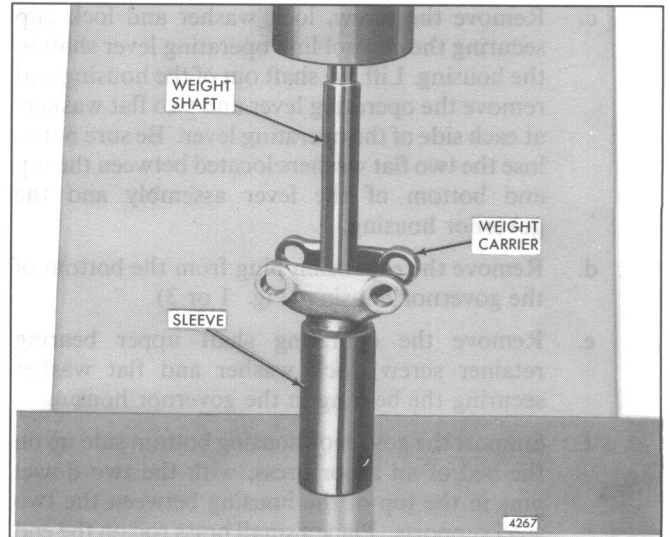

Fig. 13 – Removing Governor Weight Shaft from Weight Carrier
- c. carrier and sleeve on the bed of an arbor press and press the shaft out of the weight carrier (Fig. 13).